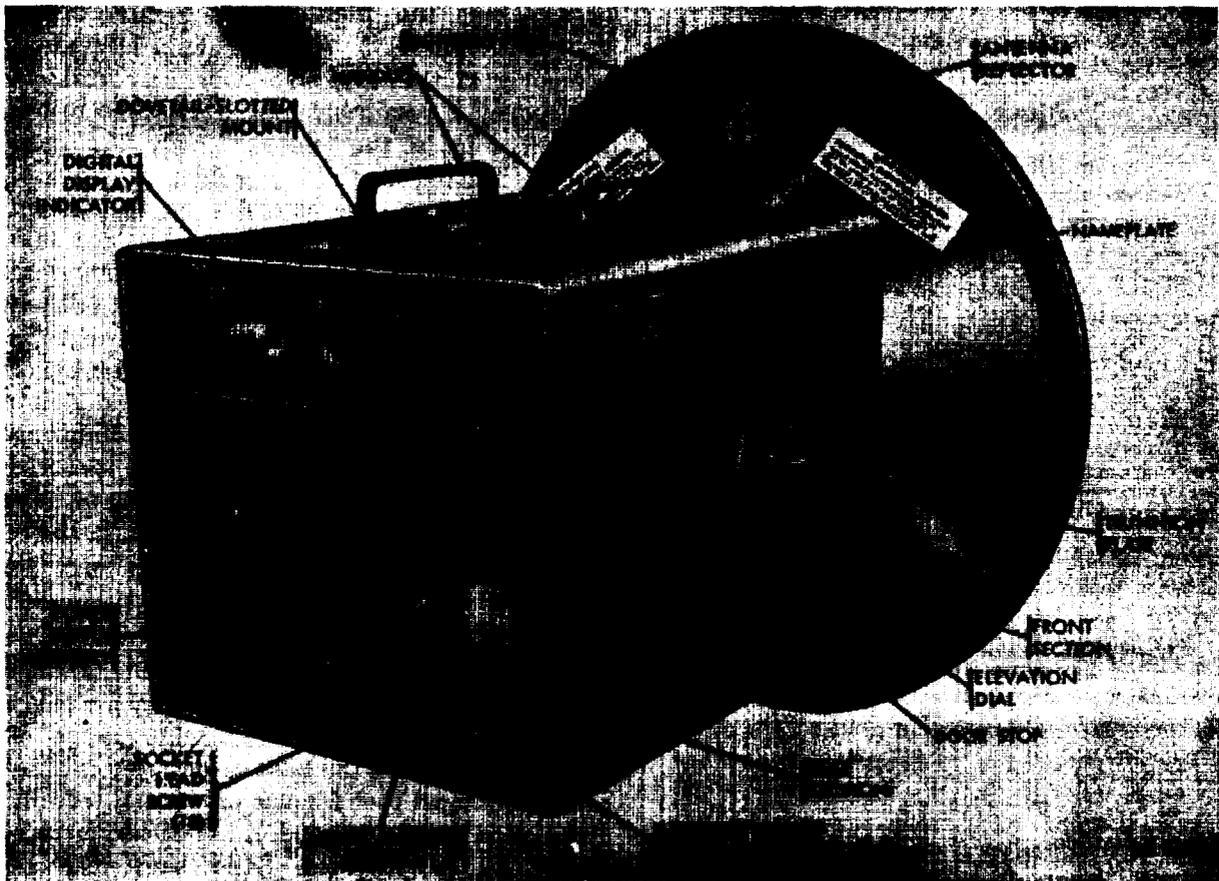

Figure 1-4. Radar chronograph.
c. *Radar Chronograph.* The radar chronograph (fig. 1-4) is the main component of the radar chronograph set, M36. Essentially, it consists of a complete radar transmitter-receiver with special circuitry for comparing outgoing and incoming frequencies and for converting the result into velocity terms on a direct readout display. Transistors are utilized in the electronic circuitry wherever signal frequencies and power levels permit. This gives the radar chronograph a high degree of portability, compactness, coolness of operation, ruggedness, and stability. The whole unit consists of six major assemblies contained in a two-section aluminum case. The smaller front section mounts the antenna reflector (fig. 1-5) and contains the waveguide and amplifier-detector (IF) assemblies.
On the left hand side of the front section are two LEAKAGE ADJUSTMENT control knobs numbers 1 and 2 (fig. 1-6). All other operating controls are located on the rear panel. The rear section contains four plug-in assemblies; the audio amplifier (fig. 1-4), digital display indicator, power supply and AFC assemblies. The first three of these are accessible from the rear panel and are held in place by captive screws. The AFC assembly can be made accessible by loosening four key lock fasteners and swinging open the hinged front section. For access to all four assemblies, the complete rear panel may be pulled out on its guide rails after loosening ten screws. Air vents with filters are located at the bottom of the rear section for intake and exhaust of the air circulated by the cooling fans. The two sections are hinged together to permit opening for access to the waveguide and IF amplifier assemblies, and to the AFC assembly. A dovetail-slotted mounting plate is located on top of the rear section. The dovetail-slotted plate is used for mounting the sighting telescope XM128. On both sides of the rear section are trunnion plates (fig. 1-4) which support the radar chronograph in the mount. An elevation scale is fastened on the right hand side of the radar chronograph case.